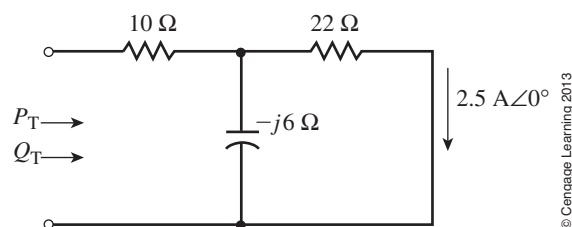

FIGURE 17-43
14. For Figure 17-43, determine P_T and Q_T .